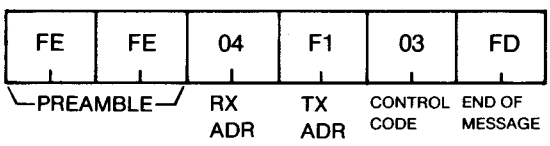
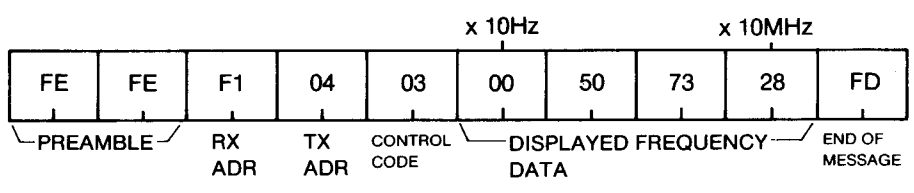

Fig. 14
Fig. 15
- (1) The controller can ask the IC-735 for the displayed frequency.
- (2) When the controller sends the packet in Fig. 14, the IC-735 returns the packet shown in Fig. 15.
- (3) If the receiving IC-735 is scanning, it ignores the frequency request.
- (4) The frequency data is sent from the 1Hz digit to the highest digit. In the IC-735, the 1Hz digit is always 0.